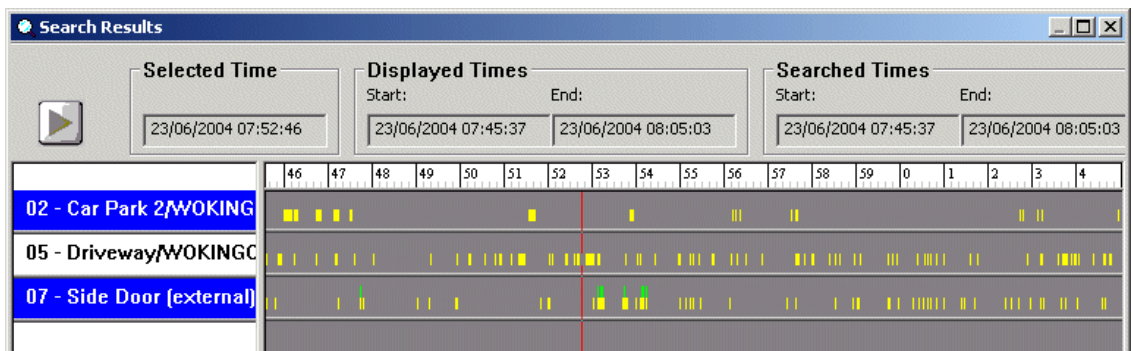

Figure 11-4: An example of a search result
When the search is complete, double-click on the result name to show a time line similar to Figure 11-4 with VMD events marked in yellow and motion events located using object analysis marked in green.
- Select more than one camera name, highlighting them in blue as shown in Figure 11-4, and click the arrow button to display the results from the selected cameras.